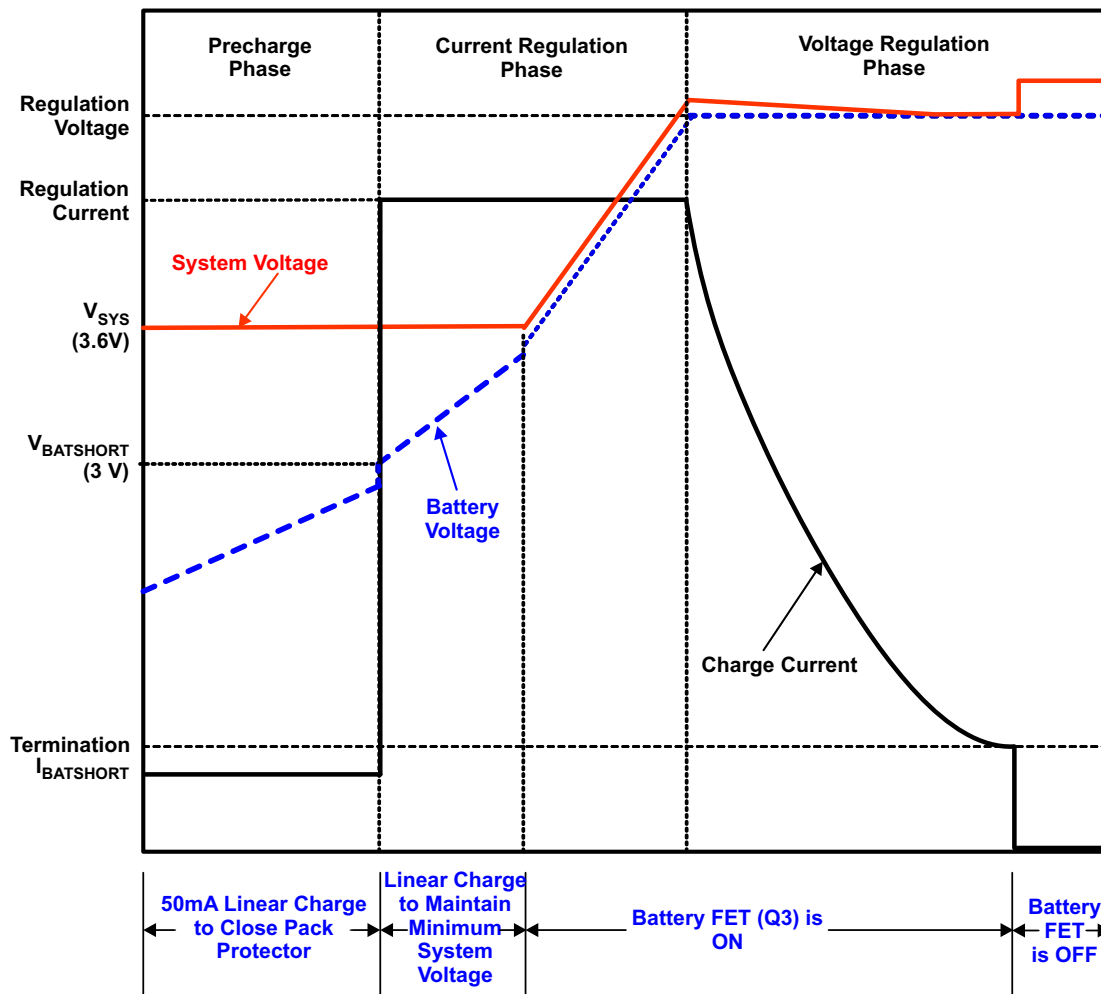

Figure 10. Typical Charging Profile of bq24266
The bq24266 supports a precision Li-Ion or Li-Polymer charging system for single-cell applications. Charging is done through the internal battery MOSFET. There are 6 loops that influence the charge current; constant current loop (CC), constant voltage loop (CV), thermal regulation loop, minimum system voltage loop (MINSYS), input current limit and V_{IN}-DPM. During the charging process, all six loops are enabled and the one that is dominant takes control. The minimum system output feature regulates the system voltage to V_{SYSREG(LO)}, so that startup is enabled even for a missing or deeply discharged battery. Figure 10 shows a typical charge profile including the minimum system output voltage feature.
Once the battery is charged enough that the system voltage rises above $V_{\text{SYSREG(LO)}}$ (approximately 3.5V), the battery FET is turned on fully and the battery is charged with the full programmed charge current set by ISET. The charge current is regulated to I_{CHARGE} until the voltage between BAT and PGND reaches the regulation voltage. The voltage between BAT and PGND is regulated to V_{BATREG} (CV mode) while the charge current naturally tapers down as shown in Figure 10. During CV mode, the SYS output remains connected to the battery. The impedance of the battery FET is increased to 4x of the fully on value when IBAT falls below ~350mA to provide increased accuracy during termination. This will show a small rise in the SYS voltage when the $R_{\text{DS(ON)}}$ increases below ~350mA.